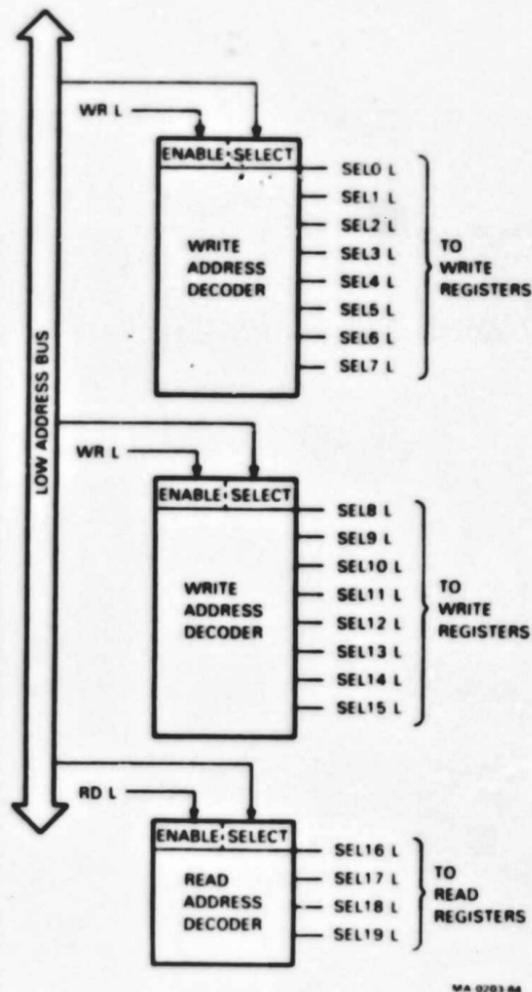

Figure 2-9 Address Decoders with Low Address Bus
Figure 2-9 shows the three address decoders and the low address bus. Refer to this figure for the following discussions.
**2.3.4.1 Write Address Decoders (Figure 2-9)** – There are two write address decoders. One enables eight port multiplexer control registers. The other enables a UART multiplexer control register, three discrete latch signals, and an LED display register. Both have output lines selected by the three lowest address bits (A0,A1,A2) on the low address bus. Both are enabled by the fourth address bit (A3) and the WR (write) signal. To prevent the two decoders from being enabled at the same time, the fourth address bit is inverted at the input of one of the decoder's enable circuitry.